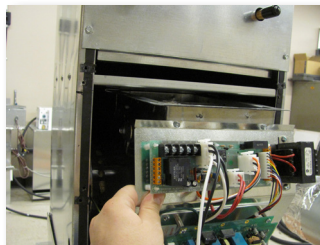

Fig. 4a
4. Remove motor/blower module from air handler by sliding it out. (Figs. 4a, 4b)